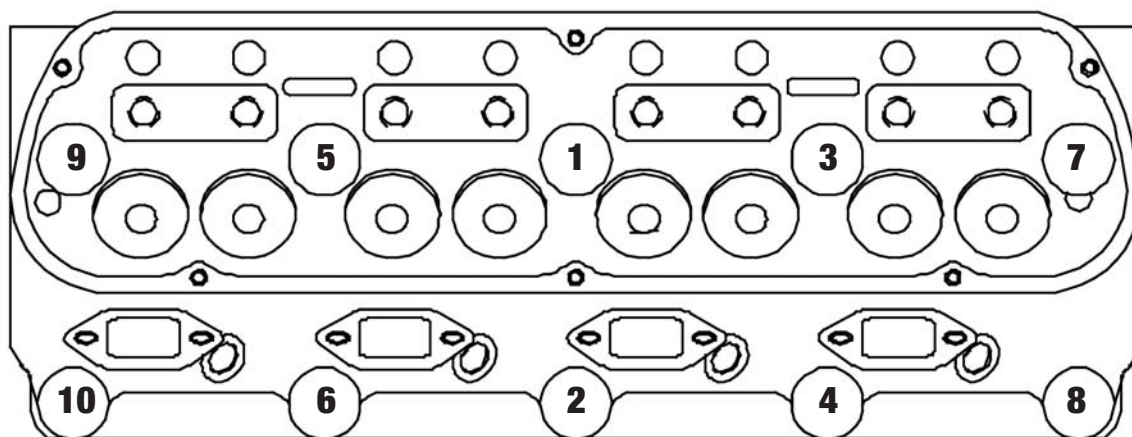

Figure 1 - Head Bolt Tightening Sequence
- Installation is the same as for original equipment cylinder heads. Consult service manual for specific procedures, if necessary. Head gasket recommendations are listed in the head gasket section. Be sure that the surface of the block and the surface of the head are thoroughly cleaned to remove any oily film before installation. Use alcohol or lacquer thinner on a lint-free rag to clean. Apply moly-oil mixture to head bolt threads, washer, and area under head bolt to prevent galling and improper torque readings. Torque to 70 ft.-lbs. for 7/16" bolts (289/302) or 100 ft.-lbs. for 1/2" bolts (351-W) in three or four steps following the factory tightening sequence (see Figure 1), then tighten the long (upper) head bolts to 80 ft.-lbs. (7/16") or 110 ft.-lbs. (1/2"). A re-torque is recommended after initial start-up and cool-down (allow 2-3 hours for adequate cooling).